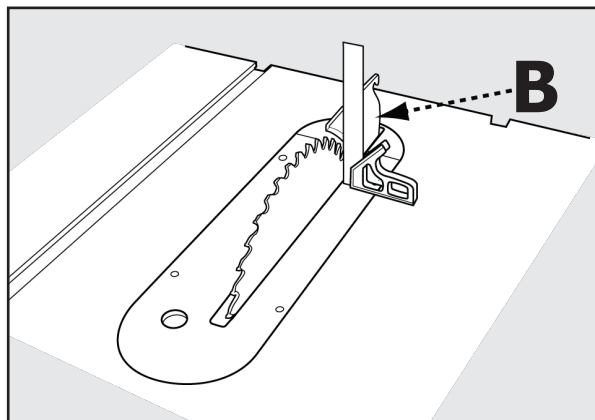

FIGURE 20B
3. Using a carpenter's square, check the angle of the blade face to the table, as shown in Figure 20b, page 18. If the blade is at 90° to the table, proceed to Step 6.
4. If the blade is not perpendicular to the table, turn handwheel to slightly tilt the blade away from the stop position then adjust the 90° stop by rotating the socket set screw located in the table top immediately in front of the left side of throat plate (A). Re-check angle using the carpenter's square and continue to adjust until the blade is at 90 degrees when returned to the stop position.
1. **Vertical Alignment:** Place a carpenter's square on the table and against the blade face and make sure it extends up along the riving knife (B) as shown in figure 20b. The riving knife and blade should touch the carpenter's square with no gaps. Be sure the straight edge goes between the teeth and rests on the blade face and the riving knife for proper alignment.